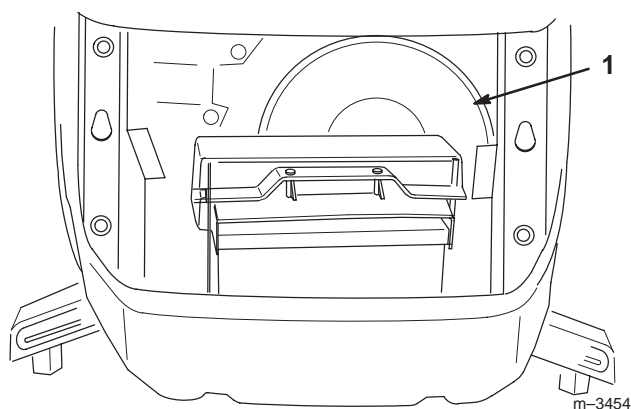

Figure 23
10. Remove the belt from the PTO pulley (Fig. 23).